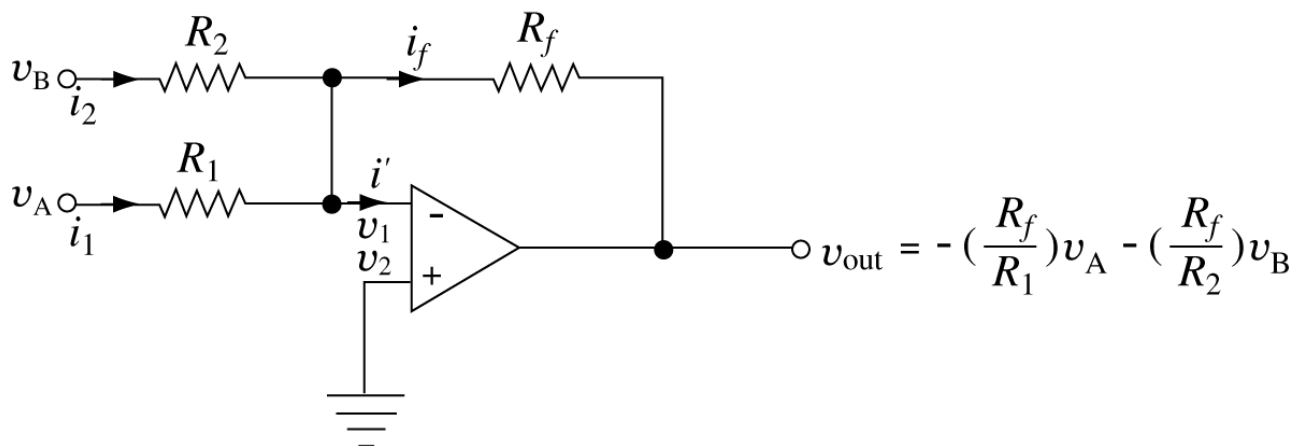

Fig. 3: Summing amplifier
- (1) Construct the summing amplifier shown in fig. 3, using resistor values $R_f \approx 8k\Omega$, $R_1 \approx 2k\Omega$ and $R_2 \approx 1k\Omega$. Use 12 V as supply voltage.
- (2) Apply a sinusoidal signal of about 200mV amplitude (from the function generator) to each input separately with the other grounded and measure the sign and magnitude of the amplification factor.
- (3) Then connect the same signal to both inputs and measure the output magnitude. Compare with predicted values (do they agree within errors?).
- (4) Apply a sinusoidal signal to both inputs; vary the amplitude of the input signal from 100mV to 1.3V (in 100mV steps) and measure the gain (i.e. ratio of amplitude of the output signal and amplitude of input signal). Plot it as a function of the nominal output signal amplitude (i.e. the output signal amplitude expected from the formula given in fig.3). Estimate uncertainties on measured and expected signal size and gain. Describe your observations, and try to explain what you observe.
- (5) For a fixed input amplitude (about 0.5V), measure the *gain* (v_{out}/v_{in}) as a function of frequency of the sinusoidal, from about 500Hz to the maximum frequency available on the function generator. Take data for 3 frequency values per decade. Discuss the frequency dependence of the gain, and establish a relation between it and the observations of item (6).
- (6) Instead of a sinusoidal signal, use a triangular wave and a square wave as input, and observe the output waveforms for three frequencies (lowest, highest, and a value in the middle of your range). Draw the waveforms and comment on your observations. Measure the rise time of the square wave signal (both input to and output from the amplifier). Relate your measurements to the slew rate of the opamp and the frequency dependence of the gain.